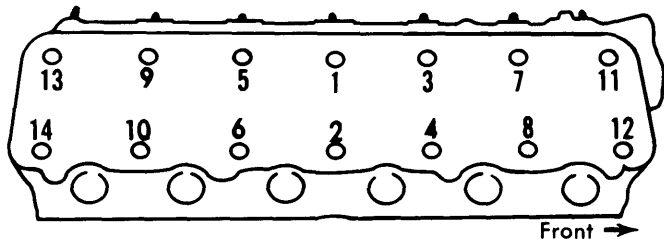

Fig. 1 Cylinder Head Tightening Sequence
**Installation** - Coat gasket with suitable sealer. Install gasket and head on cylinder block. Install bolts and tighten in two steps to specifications. Use tightening sequence shown in Fig. 1. Install rocker arm and shaft assembly, connect all wires, hoses, cables and linkage previously removed and reverse remainder of removal procedure.